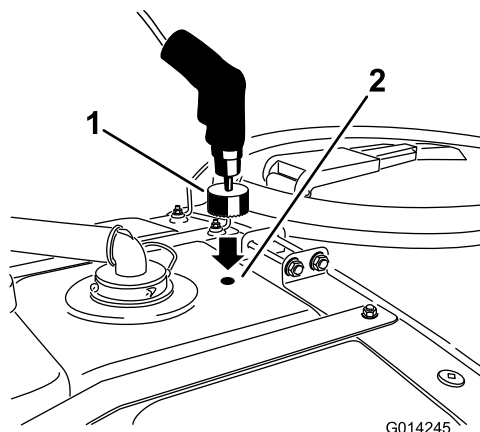

Figure 12
4. Use a 1-3/4 inch (4.5 cm) hole saw to drill a hole at the drill mark (Figure 12).